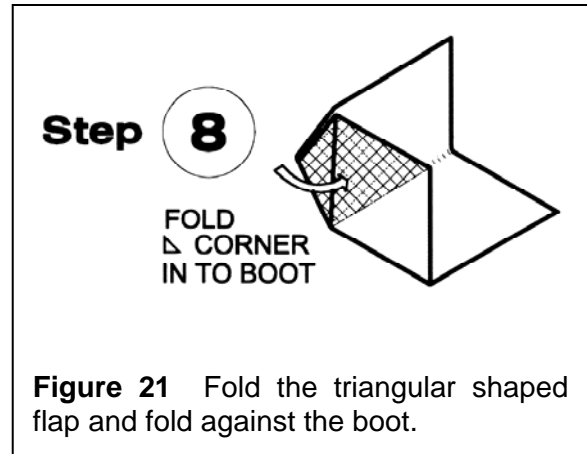

Figure 21 Fold the triangular shaped flap and fold against the boot.
Step 8. Fold the triangular corner against the side to form a corner boot. See Figure 21.